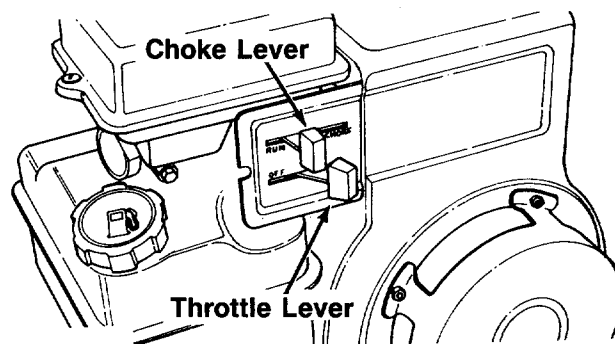

FIGURE 15.
- Place throttle control lever on the engine in FAST position. See figure 15.